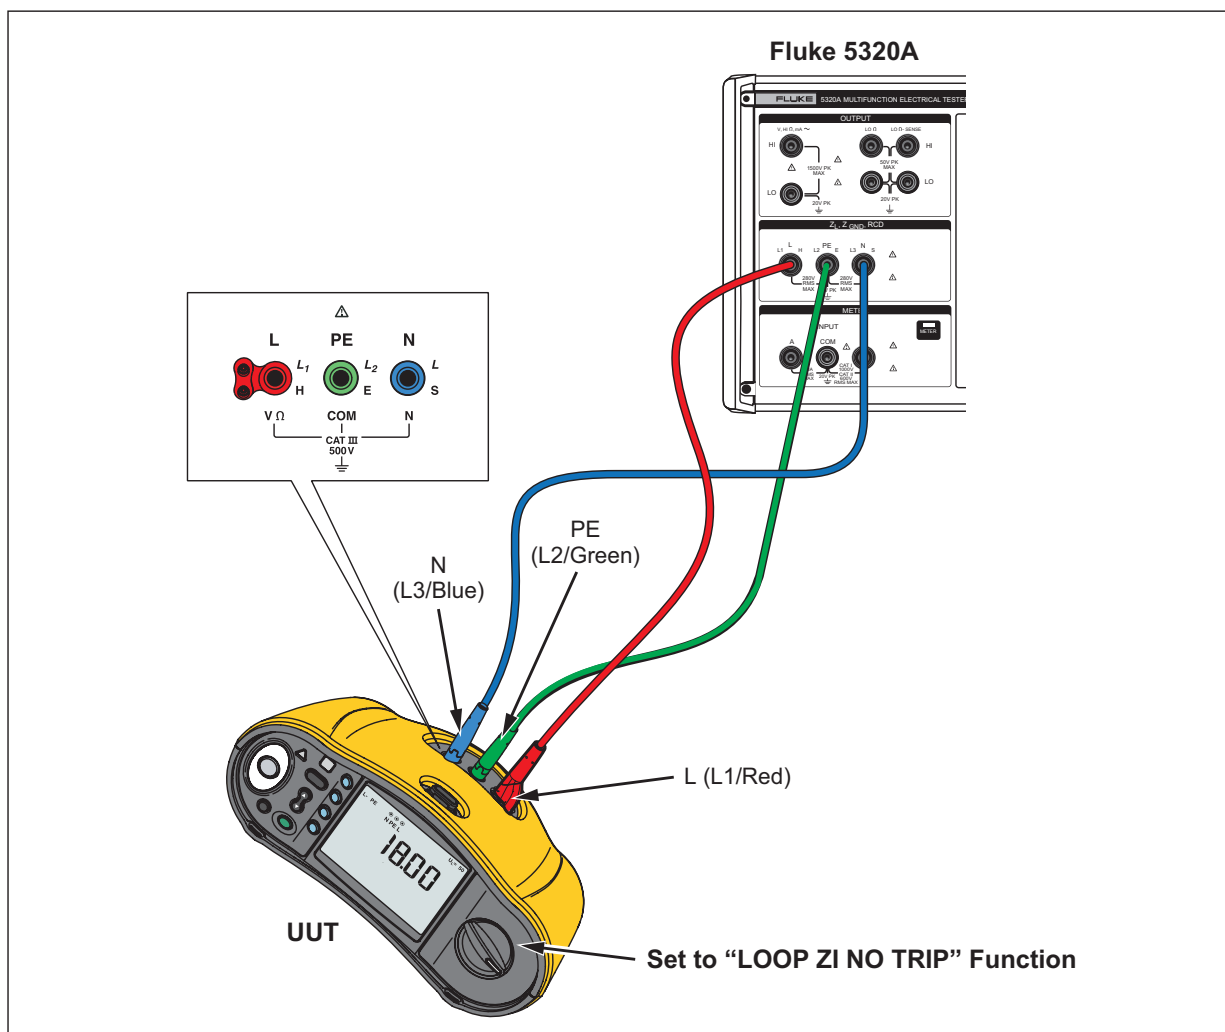

Figure 6. LOOP Z₁ NO TRIP Test
1. Connect the test leads to the Tester and Calibrator, as shown in Figure 6.